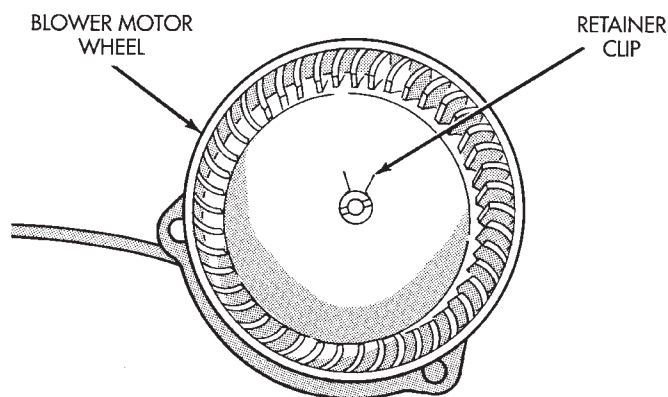

Fig. 5 Blower Motor Wheel
- (6) Remove the blower motor wheel retainer clip (Fig. 5).
- (7) Pull the blower motor wheel off of the blower motor shaft.